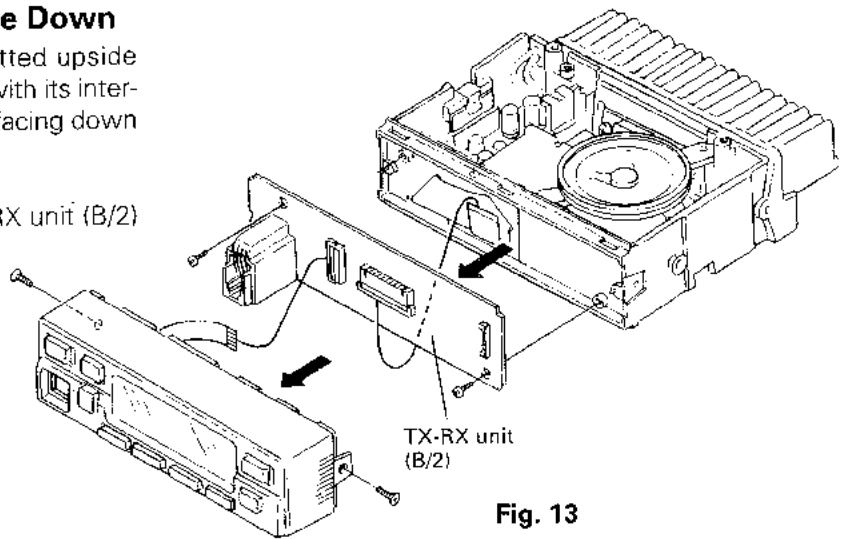

Fig. 13
1. Remove the control panel and the TX-RX unit (B/2) control section. (Fig. 13)